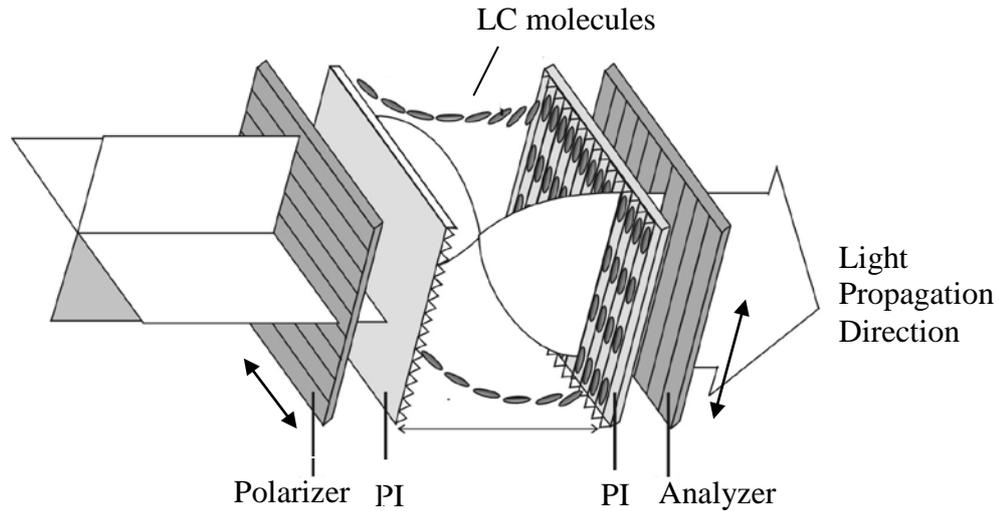

Fig. 8 90° TN LC cell
In the 90° twisted nematic (TN) cell shown in Fig. 8, the LC director of the back surface is twisted 90° with respect to the front surface. The front local director is set parallel to the transmission axis of the polarizer. An incident unpolarized light is converted into a linearly polarized light by the front polarizer.